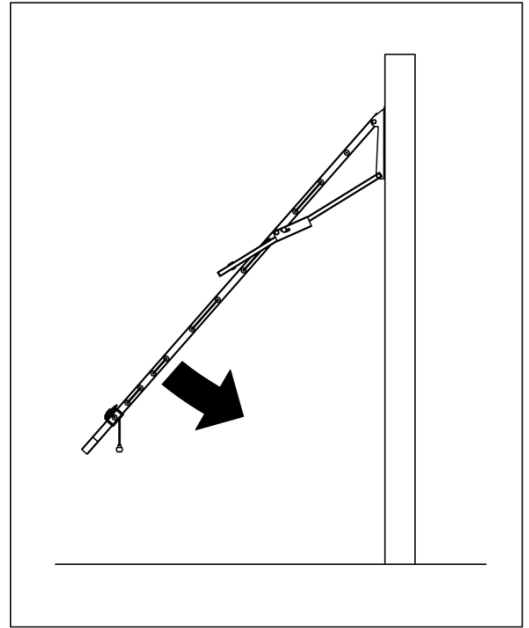

Fig 13. Lower the clothesline.
- The clothesline can now be lowered all the way. (Fig.13)